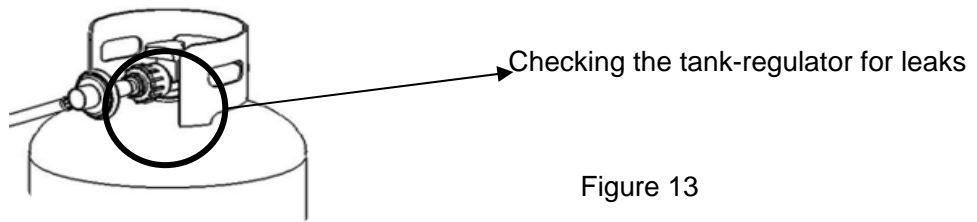

Figure 13
13. Open the tank valve. Apply a solution of soapy water to the tank-regulator connection and to the valve-hose connection to check for leaks as shown in Figure 13. If soap bubbles continue to form, the connection has a leak. If a leak is found, close the tank valve and tighten all connections.